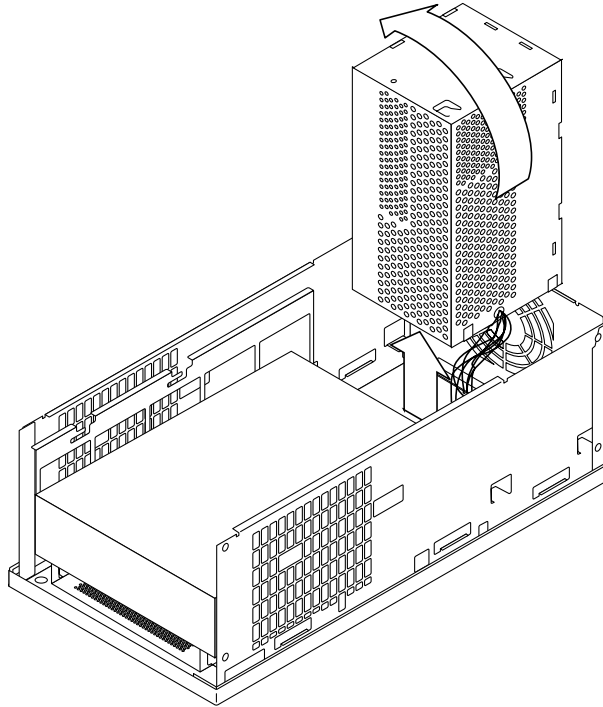

FIGURE 2-5 Removing the Power Supply
3. **Remove the power supply (see FIGURE 2-5).**